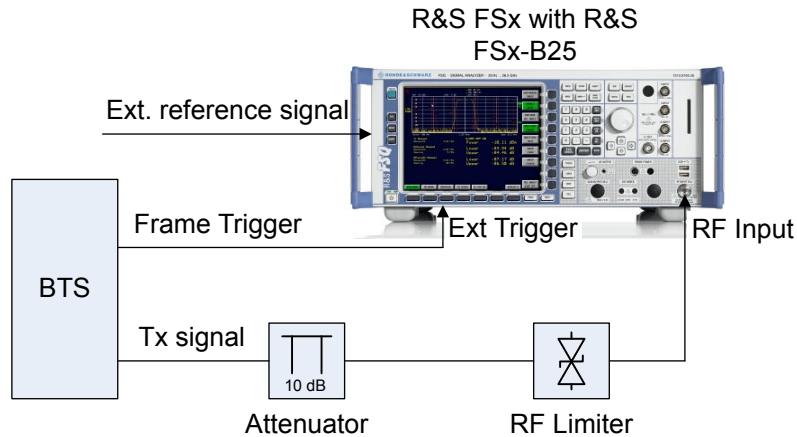

Figure 4-7: Test setup for transmit on / off power measurement
- Connect an RF limiter to the RF input to protect the RF input from damage (see Figure 4-7). Table 4-1 shows the specifications that the limiter has to fulfill.